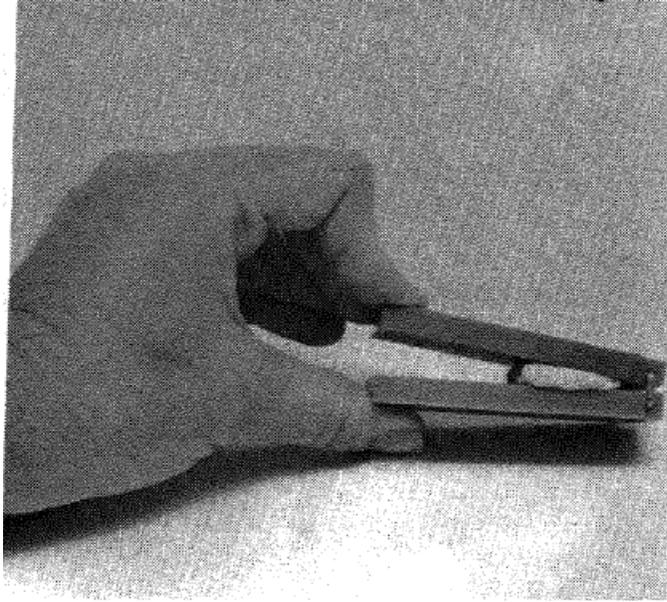

Figure 8. Using the Sponge squeezer to remove excess water
Step 3. Squeeze out the excess water using the sponge squeezer (Figure 8).